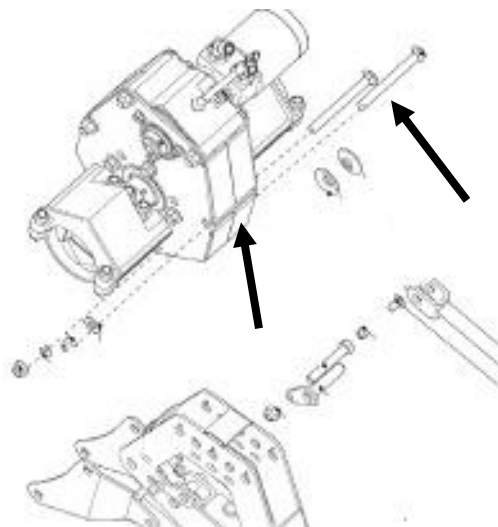

Figure 251
3. Disconnect the hoses and the electrical connections. The bolts at the front of the reel arm can now be removed. This will allow the gearbox to be pulled from the reel arm. Figure 251